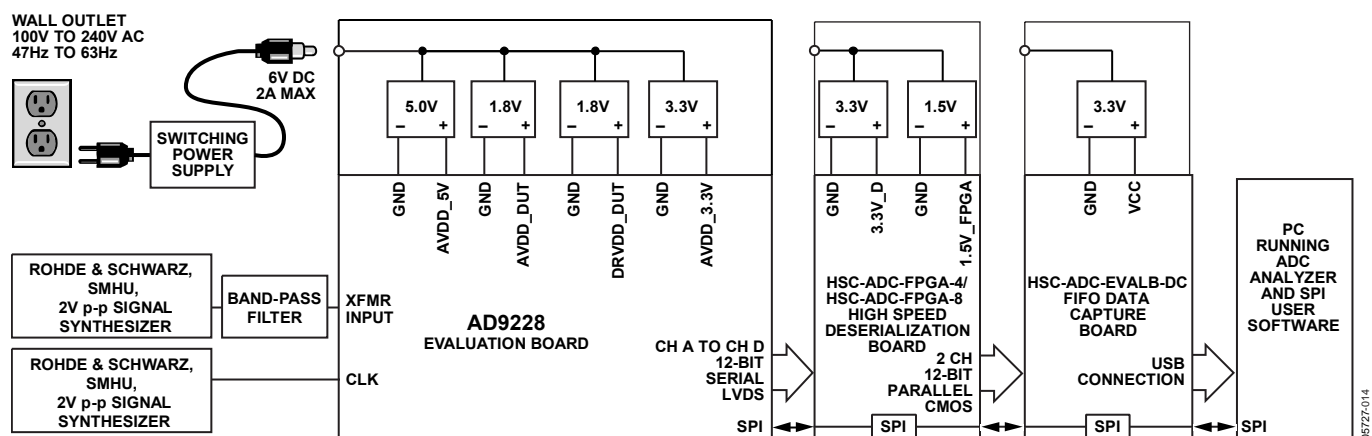
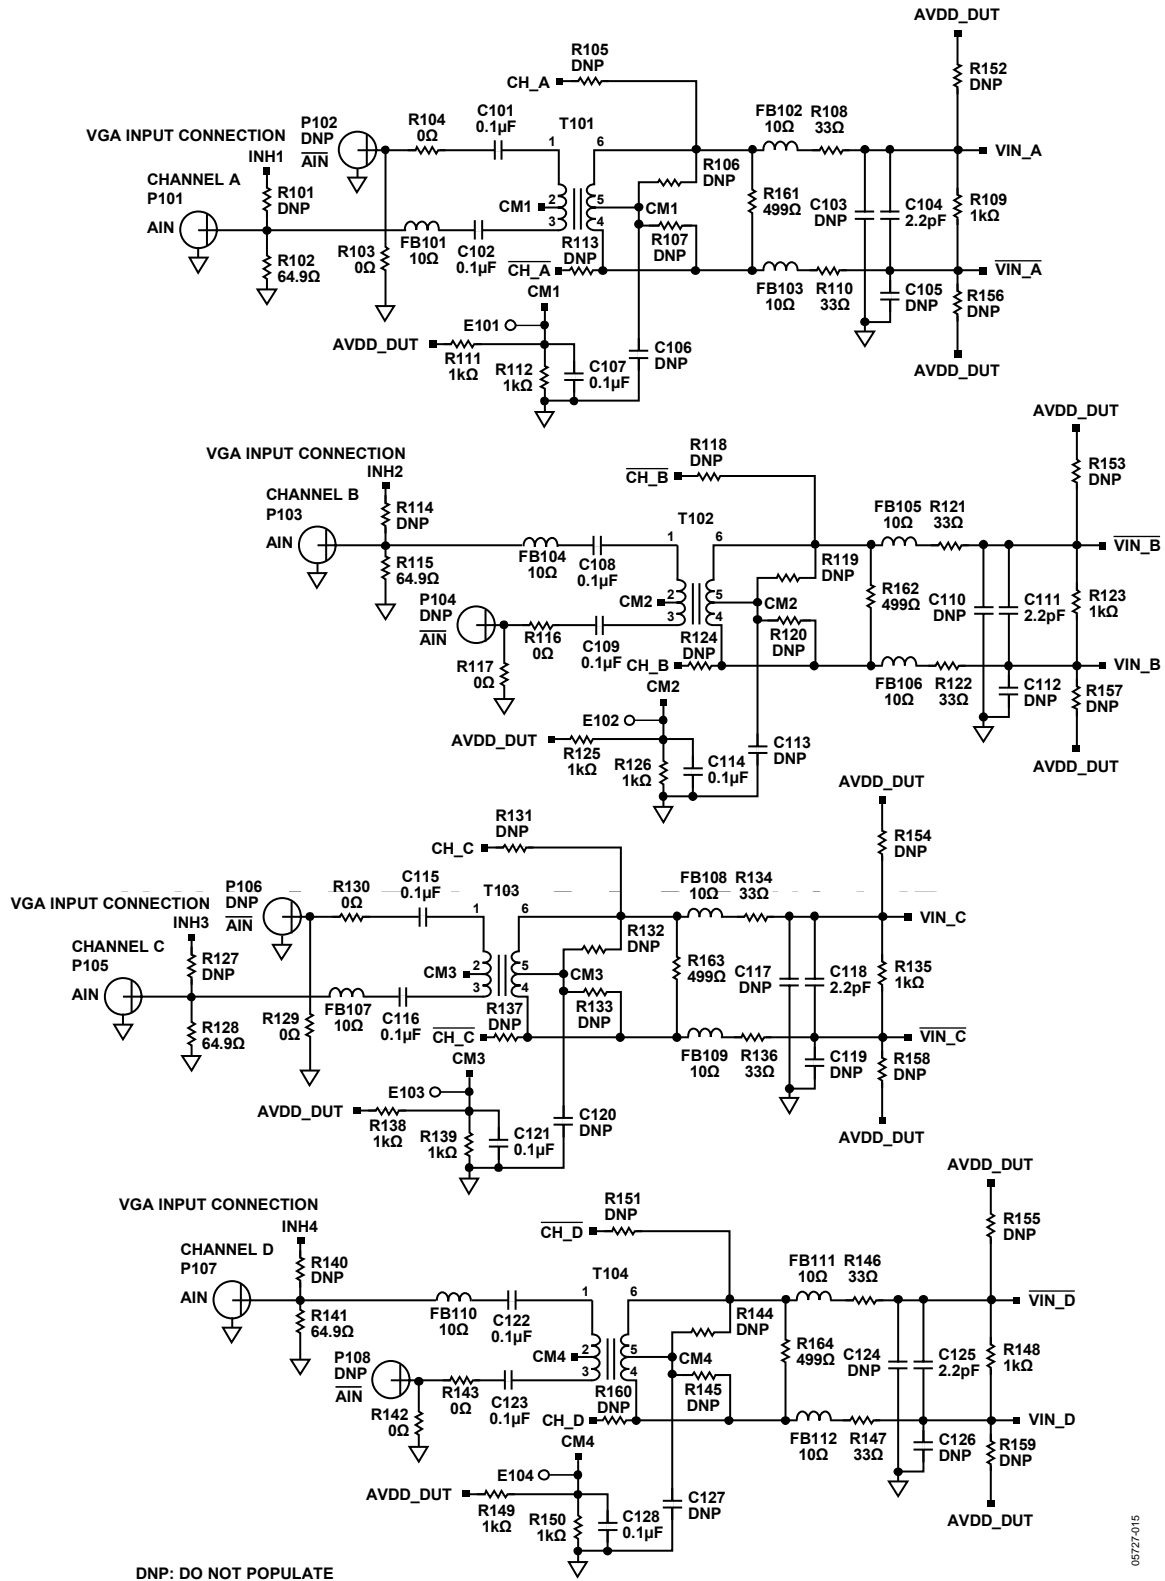
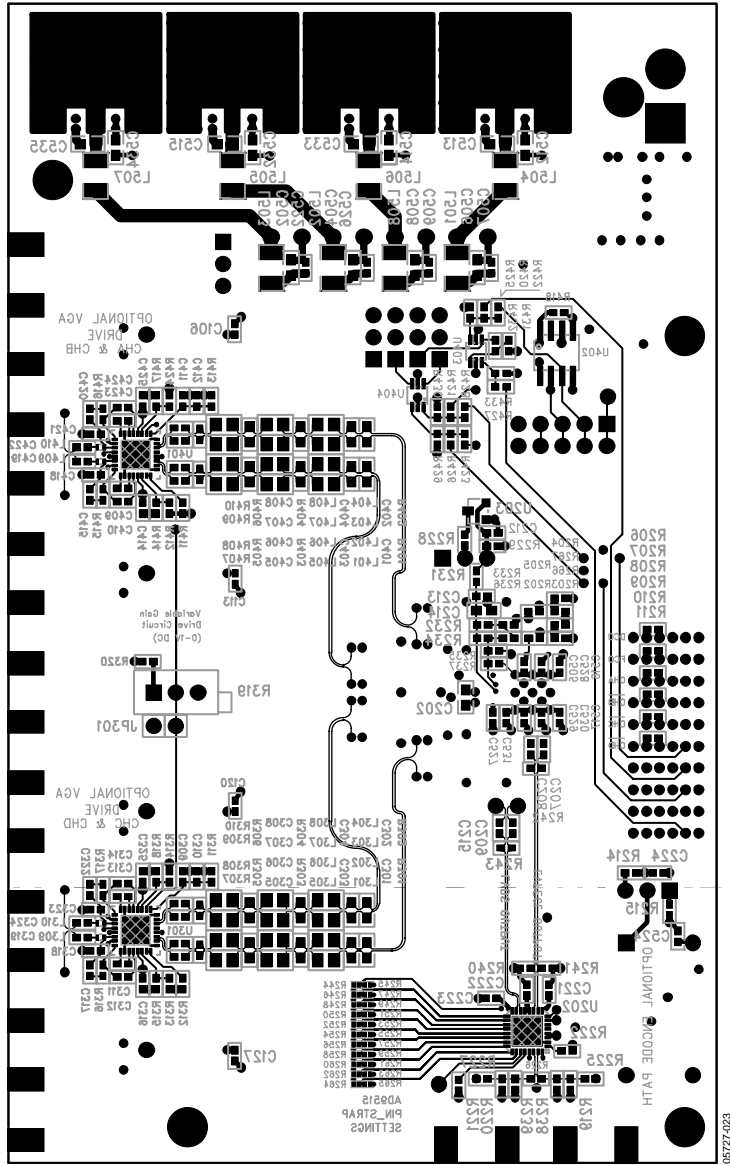

Figure 71. Evaluation Board Connection
Figure 73. Evaluation Board Schematic, DUT Analog Inputs
Figure 81. Evaluation Board Layout, Secondary Side (Mirrored Image)
The AD9228 evaluation board provides all of the support circuitry required to operate the ADC in its various modes and configurations. The converter can be driven differentially using a transformer (default) or an AD8332 driver. The ADC can also be driven in a single-ended fashion. Separate power pins are provided to isolate the DUT from the drive circuitry of the AD8332. Each input configuration can be selected by changing the connection of various jumpers (see Figure 73 to Figure 77). Figure 71 shows the typical bench characterization setup used to evaluate the ac performance of the AD9228. It is critical that the signal sources used for the analog input and clock have very low phase noise (<1 ps rms jitter) to realize the optimum performance of the converter. Proper filtering of the analog input signal to remove harmonics and lower the integrated or broadband noise at the input is also necessary to achieve the specified noise performance.
See Figure 73 to Figure 81 for the complete schematics and layout diagrams demonstrating the routing and grounding techniques that should be applied at the system level.
- **D + x, D - x:** If an alternative data capture method to the setup shown in Figure 73 is used, optional receiver terminations, R206 to R211, can be installed next to the high speed back-plane connector.